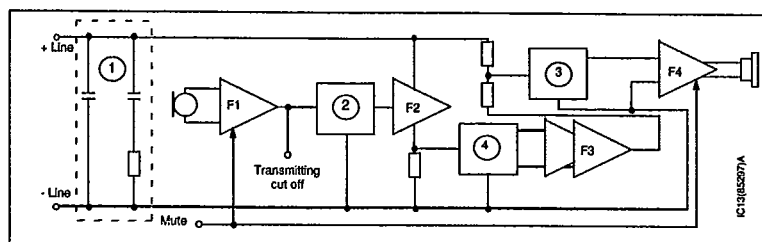

Figure 6. Block interconnections.
2. Line length compensation of side tone level. (See fig. 6).
RC-links ①②③ and ④ in fig. 6 and 7 have the following function: